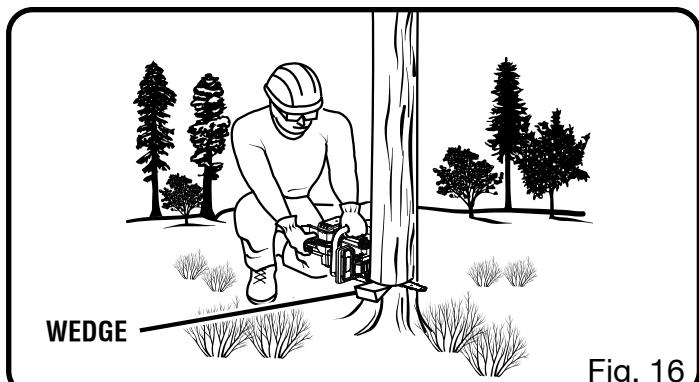

Fig. 16
■ On large diameter trees, stop the back cut before it is deep enough for the tree to either fall or settle back on the stump. Then insert soft wooden or plastic wedges into the cut so they do not touch the chain. The wedges can be driven in, little by little, to help jack the tree over. *See Figure 16.*